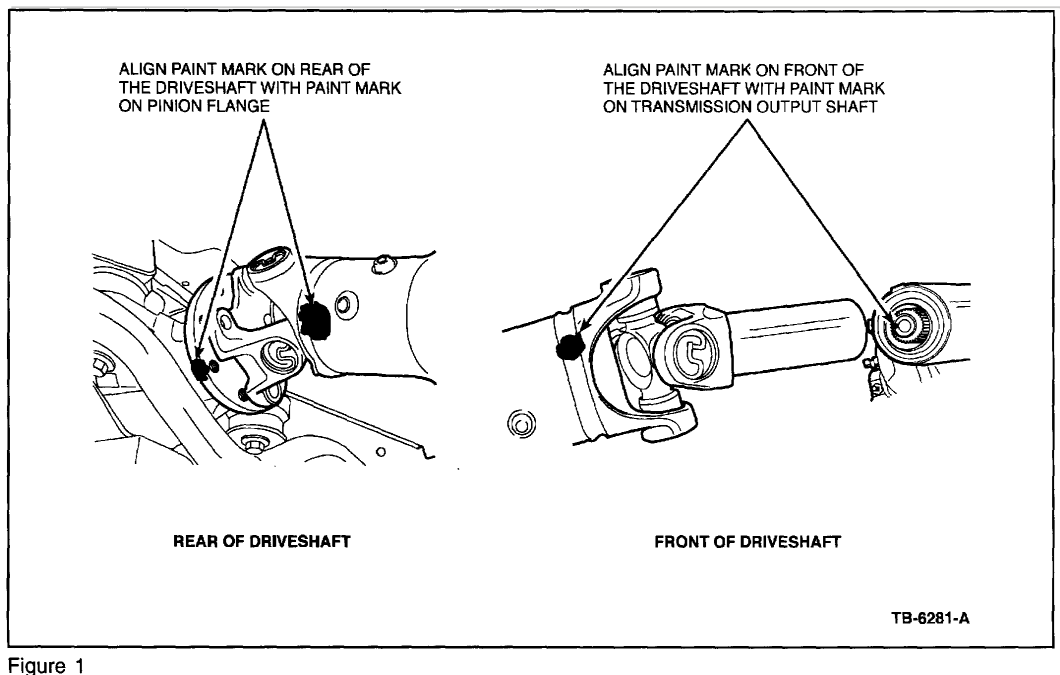

Figure 1
1. Raise vehicle on hoist. Using the appropriate year Mustang Workshop Manual, Section 205-01, replace the driveshaft. Refer to parts table for application listing. Make sure that the front driveshaft yellow paint dot is aligned with the paint dot at the end of the transmission output shaft (A/T only). Align the rear driveshaft yellow dot with the corresponding dot on the pinion flange (refer to Figure 1).